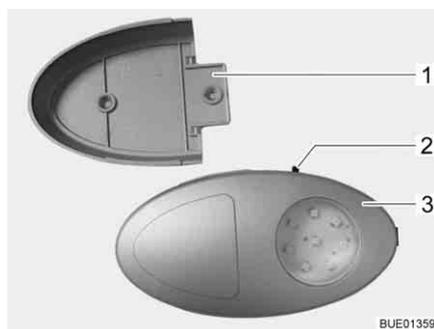

Fig. 79 Wardrobe light
- ▷ The wardrobe light can be removed from its holder (Fig. 79,1) and used as a torch.
The On/Off switch (Fig. 79,2) is located directly on the wardrobe light (Fig. 79,3).